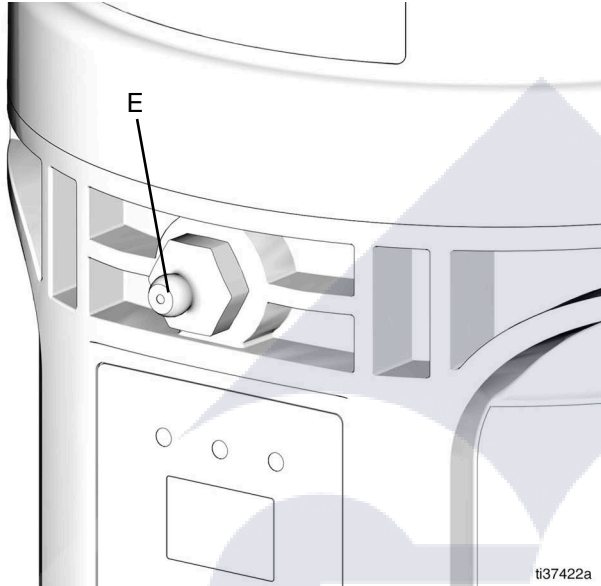

FIG. 18
1. Connect the fill hose to the Zerk Inlet Fill Fitting (E) (FIG. 18).